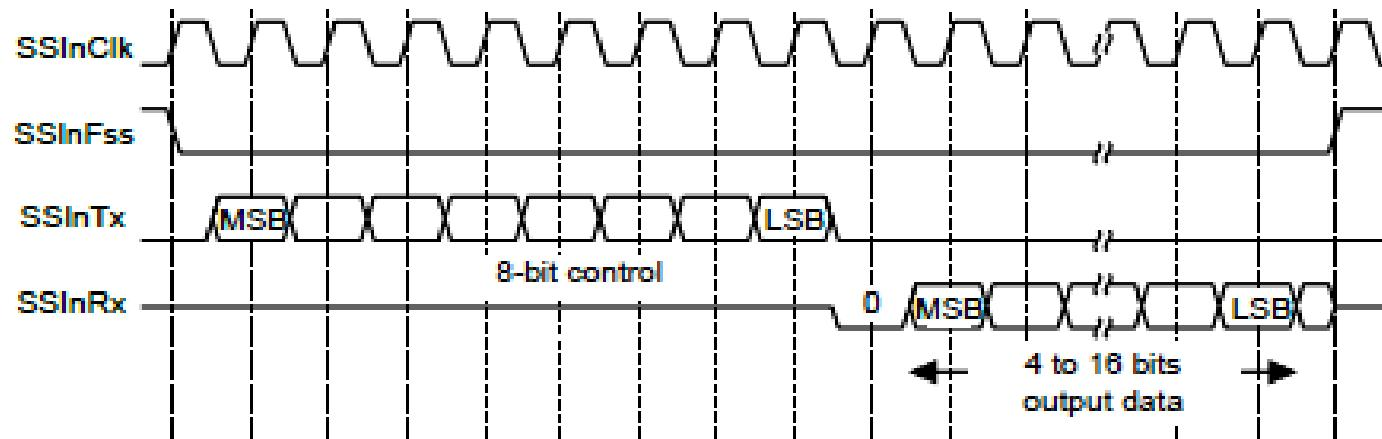

Figure 8.8 The operational sequence for MACROWIRE frame.
- Figure 8.8 shows an illustration of the operational sequence for MACROWIRE frame.